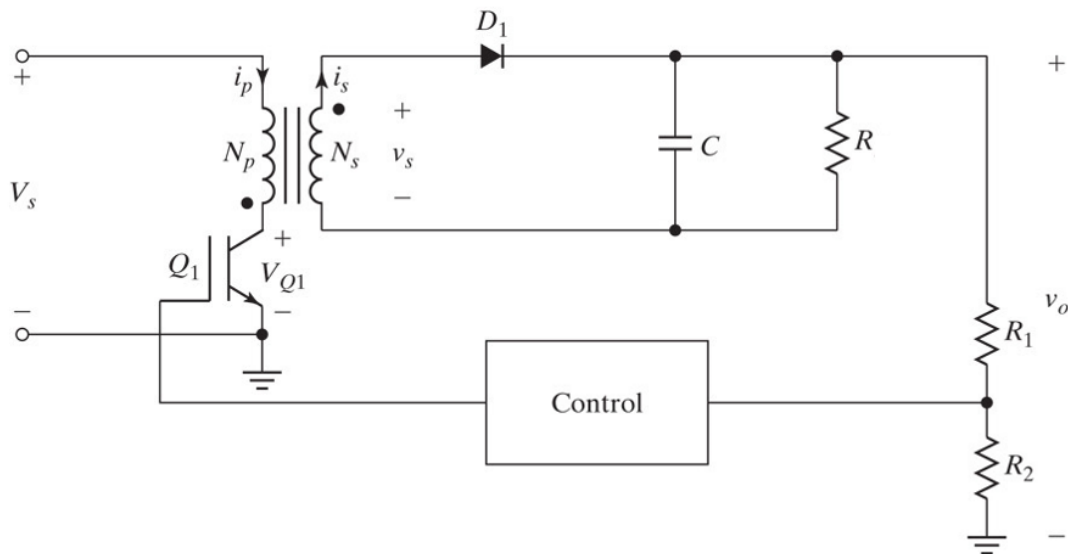

Figure Q6(a)
6. (a) Figure Q6(a) shows an example of flyback converter. There are two modes of operation: (1) mode 1 when switch Q_1 is turned on, and (2) mode 2 when switch Q_1 is turned off.